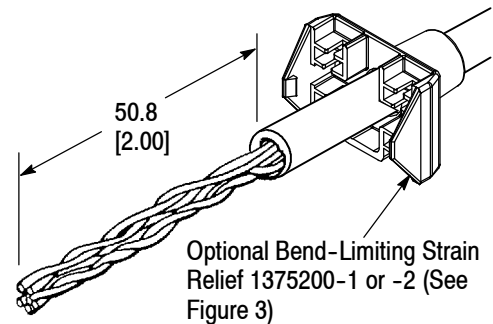

Figure 2
1. Strip back only as much cable jacket as necessary to perform termination. See Figure 2.
NOTE If using the optional bend-limiting strain relief, slide it over cable jacket as shown in Figure 2.